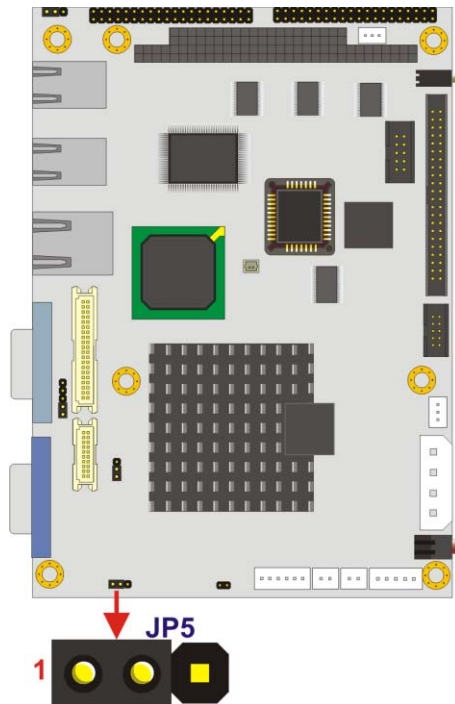

Figure 5-8: LCD Clock Select Jumper Select Jumper Location
Jumper Location:	See Figure 5-8
The COM 2 Function Select jumper location is shown in **Figure 5-8**.
- Jumper Location: See Figure 5-8
The LCD Clock Select jumper location is shown in Figure 5-8.